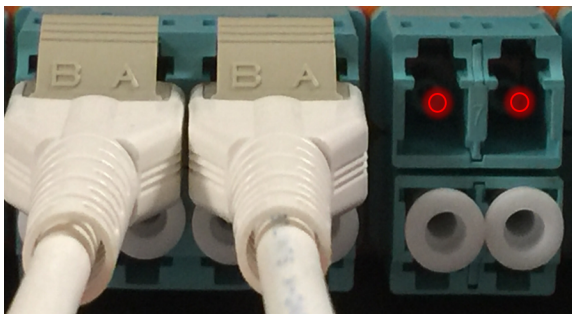

Figure 9 Red Light Passing to the First and Second LC Connectors (not visible to the human eye)
- b. Verify light is passing to the TAP's second LC monitor connection as shown in Figure 9 Red Light Passing to the First and Second LC Connectors \(not visible to the human eye\).